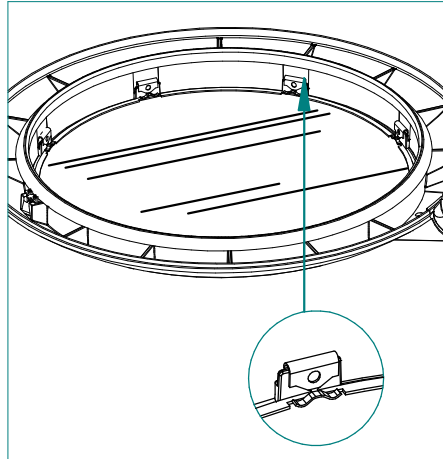

FIG. 8-1
**NOTE: SOME EXISTING FIXTURES MAY HAVE A LENS WITH A REDUCED APERTURE AND WILL NEED TO BE REMOVED. (FIG. 8-1)/(FIG. 8-2)**
**NOTE: IF 700mA UPGRADE IS ORDERED, LENS MUST BE REMOVED. (FIG. 8-1)/(FIG. 8-2)**